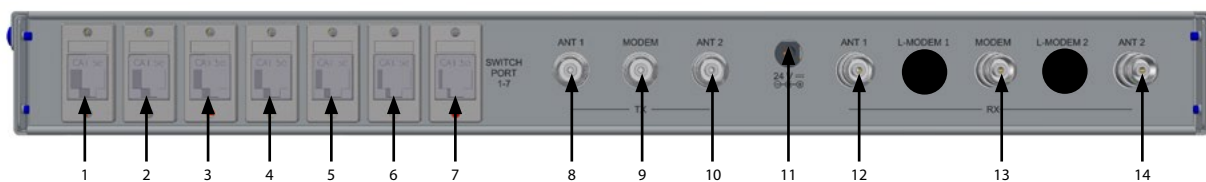

Fig. 2: EPAK VSAT-DivKit - back panel view.
Step 6	Connect the modem, ACUs and the DivKit Switch ports with the supplied Ethernet patch cables. Choose the most left Ethernet port, RJ45(7) in Fig. 2, to be the slave ACU WAN port, RJ45(6) to be the slave lock modem port, RJ45(5) to be the traffic WAN port of the traffic modem, RJ45(4) to be the port for the master lock modem, RJ45(3) to be the WAN port of the master ACU and RJ45(1) the port of the router for ships vessels network. RJ45(2) is a port for miscellaneous use and normally remains unused.  NOTE: The choice for the LAN ports are only recommendations. It does not matter for functionality but it facilitates orientation for support staff.